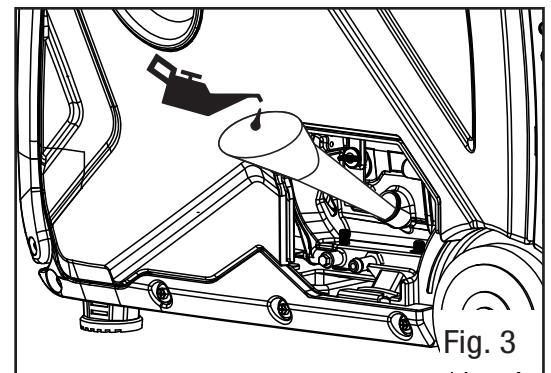
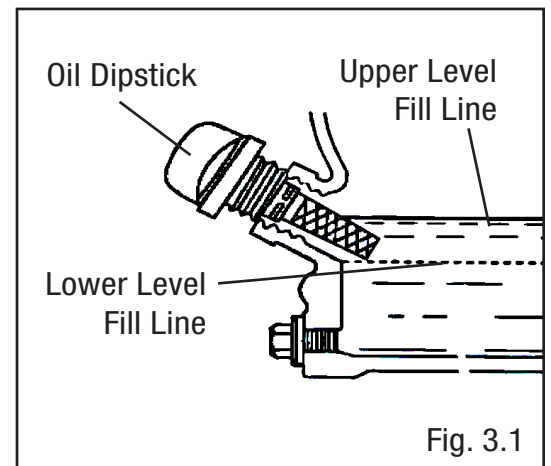

Fig. 3
Fig. 3.1
3. Using an oil funnel or appropriate dispenser, slowly add oil into the oil fill (Fig. 3), being careful not to overfill the unit. Fill the crankcase to the upper fill line so you can visually see the oil coming halfway up the oil fill threads (Fig. 3.1).